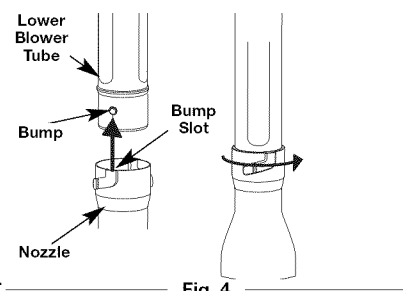

Fig. 4
3. Insert the bump on the lower blower tube into the bump slot on the nozzle (Fig. 4).
4. While holding the lower blower tube, twist the nozzle clockwise until it locks into place (Fig. 4).